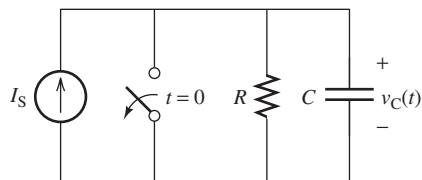

FIGURE P5.11 Circuit for Problem 5.11.
- 5.11 (A) Find an expression for power absorbed/consumed by the capacitor in Figure P5.11.